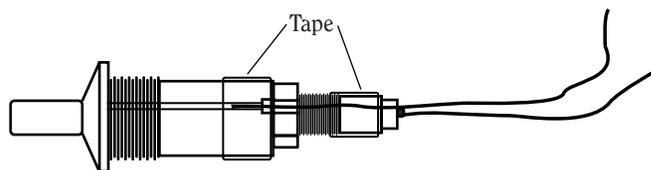

Figure 3.
3. Line up the bare wire end of the second piece of insulated wire directly on top of the bare copper wire that runs down the side of the piezoelectric igniter (Figure 3). Using transparent tape, tape the stripped wire to the copper wire on the piezoelectric igniter as shown.